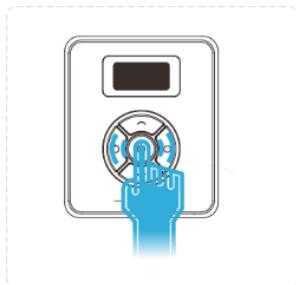

Figure 4.8 Power Magic Box
Step 2 Press the **Power** button, as shown in Figure 4.8.